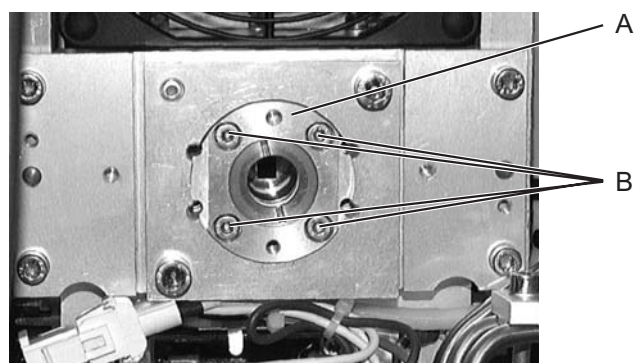

Figure 46: Exchanging the window mounts
19. While pressing the window mount (see Figure 46, A) against the laser tube, carefully loosen the four allen screws fixing the window mount (B) and remove the window mount.